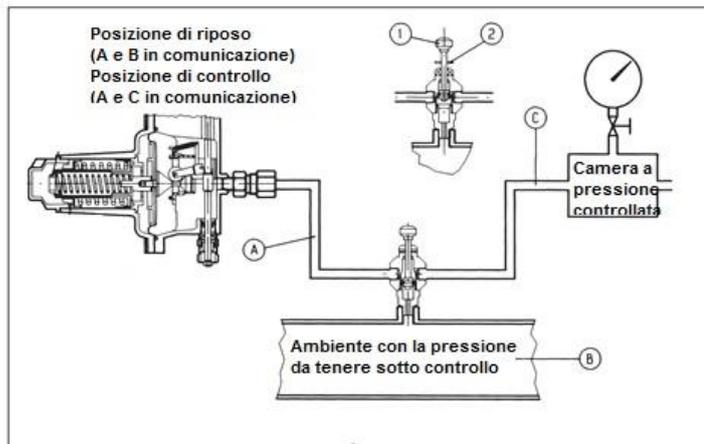

Figure 19: "Push" connection diagram
A) For the slam-shut devices connected to the downstream piping through the "push" three-way switch valve 11, proceed as follows (fig. 19):